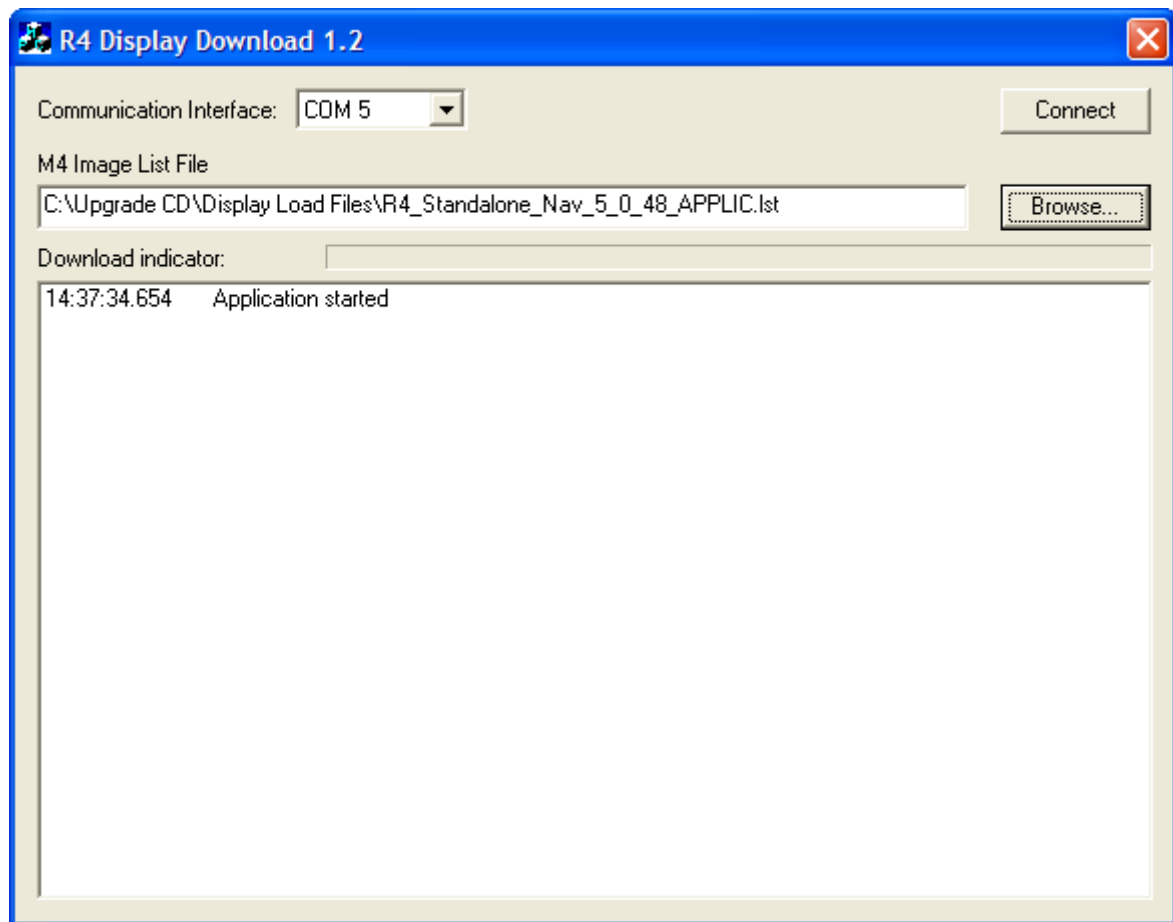

Figure 4 R4 Display Download with Selected Image List File
5. Press the *Browse* button (Figure 4) and open the M4 image list file located in the folder that was created in chapter 3.3 of this instruction.